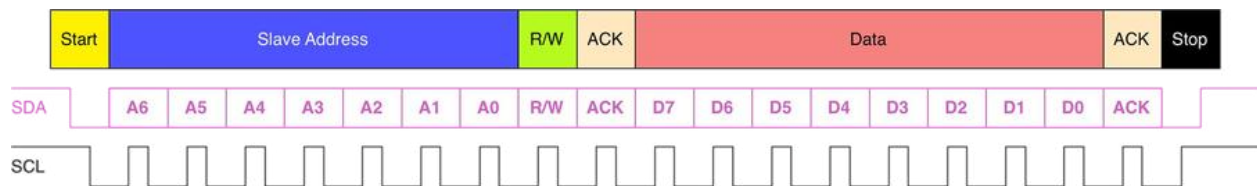

Figure 2: The structure of a base I²C message
All transactions begin with a START and are terminated by a STOP (see **Figure 2**). A HIGH to LOW transition on the SDA line while SCL is HIGH defines a START condition. A LOW to HIGH transition on the SDA line while SCL is HIGH defines a STOP condition.
Every word transmitted on the SDA line must be eight bits long, and this also includes the address frame as we will see in a while. The number of bytes that can be transmitted per transfer is unrestricted. Each byte must be followed by an *Acknowledge* (ACK) bit. Data is transferred with the *Most Significant Bit* (MSB) first (see **Figure 2**). If a slave cannot receive or transmit another complete byte of data until it has performed some other function, for example servicing an internal interrupt, it can hold the clock line SCL LOW to force the master into a wait state. Data transfer then continues when the slave is ready for another byte of data and releases clock line SCL.
The address frame is always first in any new communication sequence. For a 7-bit address, the address is clocked out most significant bit (MSB) first, followed by a R/W bit indicating whether this is a read (1) or write (0) operation (see **Figure 2**).